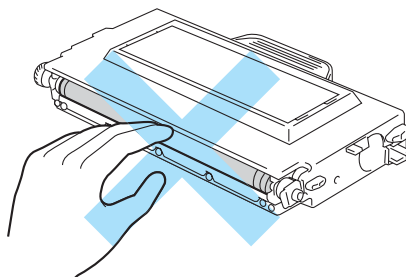

Figure 5-3
- Put the toner cartridge into the printer immediately after you have removed the protective cover. To prevent degradation to the print quality, do not touch the shaded parts shown in Figure 5-3.